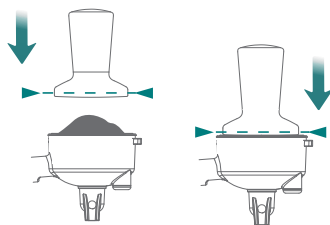

Fig 5
- As a measure of tamped coffee amount, the top edge of the tamper should be level with the top edge of the filter basket AFTER tamping. (See Fig 5)